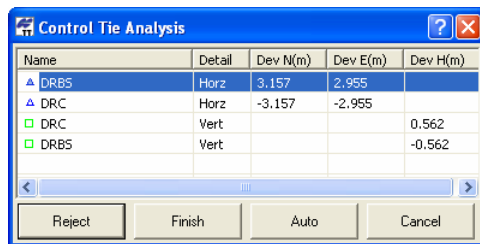

Figure 6-22. Control Tie Analysis
The *Process properties* dialog box and *Adjustment* tab enable/disables the “Control Tie Analysis” test to the adjustment process (Figure 6-22). The test will pass or fail based on the values set in the *Point Precisions* tab of the *Job Configuration* dialog box (**Job ▶ Job Configuration ▶ Quality Control**).
- A failed test is where the difference is more than the value of horizontal/vertical precision set in the *Job Configuration* dialog box. The network adjustment process will be interrupted and the *Control Tie Analysis* dialog box will display (Figure 6-22).